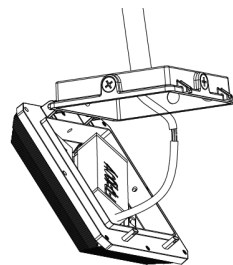

Figure 1-6
6. Turn the hinged door up then cover the fixture housing. Figure 1-6